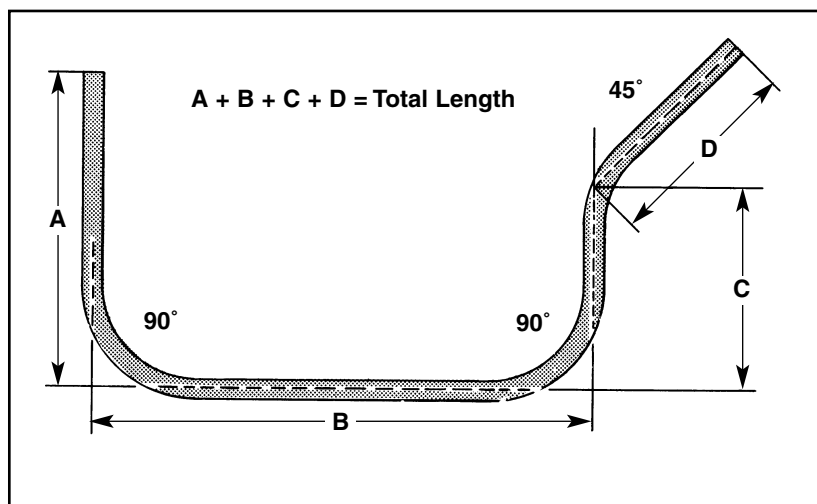

Figure 1
1. Add all blueprint center to center dimensions for the total tube length. Mark tube at this total length. (Figure 1)